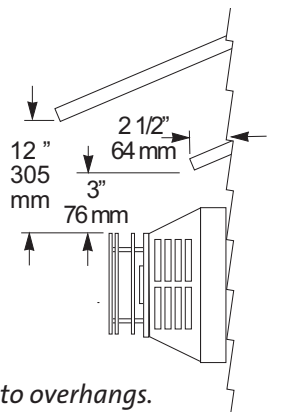

Figure 13. Termination clearance to overhangs.
- **The horizontal termination cap must maintain a 3" clearance to any overhead combustible projections that are 2 1/2" or less.** It must also maintain a 12" clearance from projections that exceed 2 1/2". See fig. 13.